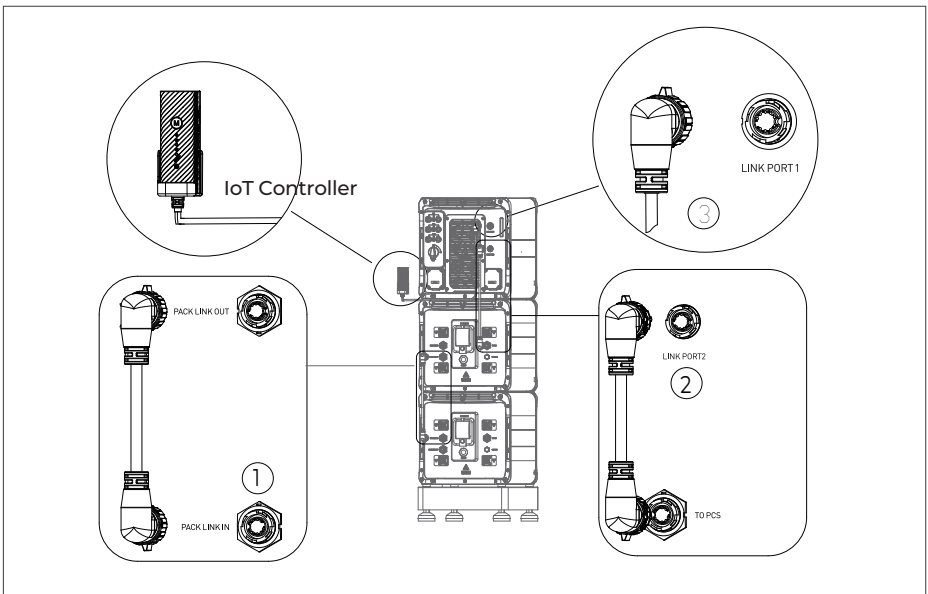

Figure 6-10
To achieve communication between two B500 battery packs, a communication cable is required. Plug one end of the cable to the B500 Link-in port, and the other to the upper B500's Link-out port. See Figure 6-10 “①”.
For communication between EP760 inverter and B500 battery packs, plug one end of the communication cable to the top B500's inverter signal port (PCS LINK), and the other to the LINK PORT 2 of EP760 inverter. See Figure 6-10 “②”.
Connect the IoT controller to the EP760 inverter. See Figure 6-10 “③”.